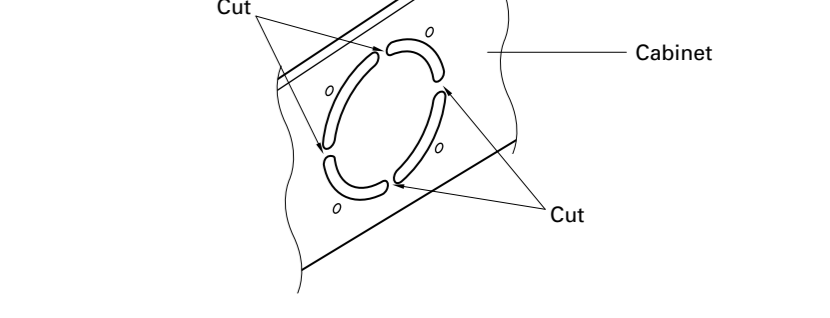

Fig. 60
- Cut off the part (Cabinet) indicated by the arrow in the Fig. 60 with nippers, needle nose pliers, etc.